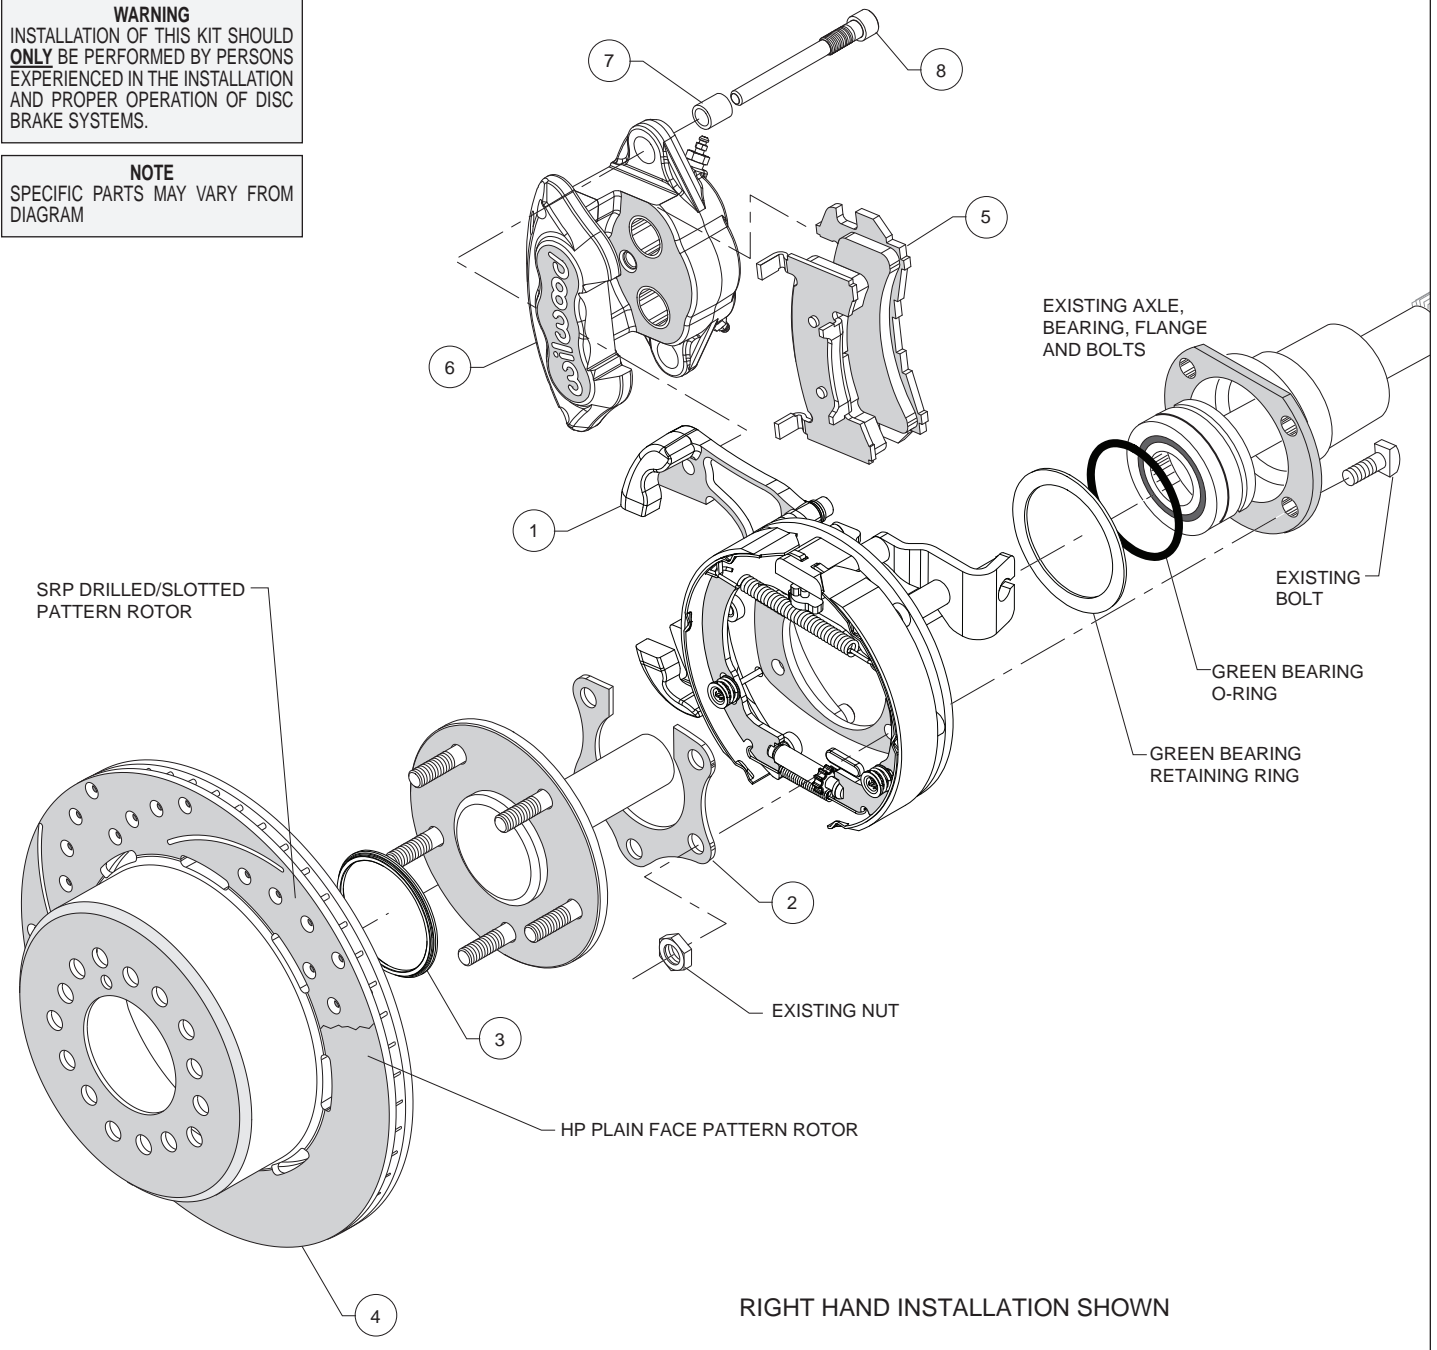

Figure 3. Typical Installation Configuration
Assembly Instructions (numbers in parenthesis refer to the parts list, and Figure 3 on the preceding pages): **CAUTION:** All mounting bolts must fully engage threaded holes.
- Temporarily remove the retaining ring and o-ring from the bearing. Use care so as not to damage those components. Orient the bracket assembly (1) as shown in Figure 3 and Photo 1 and slide it onto the axle and past the bearing. Reinstall the retaining ring and o-ring onto the bearing, again using care. Insert the axle and bracket into the axle housing. Ensure that the bracket assembly backing plate fits flush against the axle housing flange. **NOTE:** The bearing retaining ring should be sandwiched between the axle housing flange and the new bracket assembly.
- Install the bearing retainer (2) with the opening pointing upward and the bearing relief step facing inward (toward the bearing), as shown in Figures 3 and 6, and Photo 2. Secure retainer and bracket assembly to the axle housing flange using the Original Equipment Manufacturer (OEM) bolts and nuts, Figure 3. Apply red *Loctite*® 271 to the OEM bolt threads and torque to OEM specifications.
- Slide the rotor registration adapter (3) onto the axle register on the axle flange with the smaller O.D. facing toward the rotor/hat (4), Photo 3. Align the correct hole pattern in the rotor/hat with the stud pattern on the axle flange and slide into place, Figure 3 and Photo 4. **NOTE:** *The rotor/hat must fit flush against the axle flange or excessive rotor run out may result.* Install three lug nuts (finger tight) to keep the rotor/hat assembly in place while continuing with the installation. **NOTE:** *Some OEM and after market axles come with stud sizes larger than 0.50" diameter. Verify stud size and have a qualified machine shop drill the bolt circle of the hat/rotor to the correct stud size, if necessary.*
- Install the disc brake pads (5) into the caliper (6) with the friction material facing the rotor, as shown in Figure 3 and Photo 5.
- Install sleeves (7) onto slide pin bolts (8). Apply white lithium grease (available from your local auto parts store) to the slide pins/sleeves, as shown in Photo 6. **Do not apply to threads.** Mount the caliper (6) onto the mounting bracket (1) using slide pin bolts, as shown in Figure 3. Torque to 35 ft-lbs.